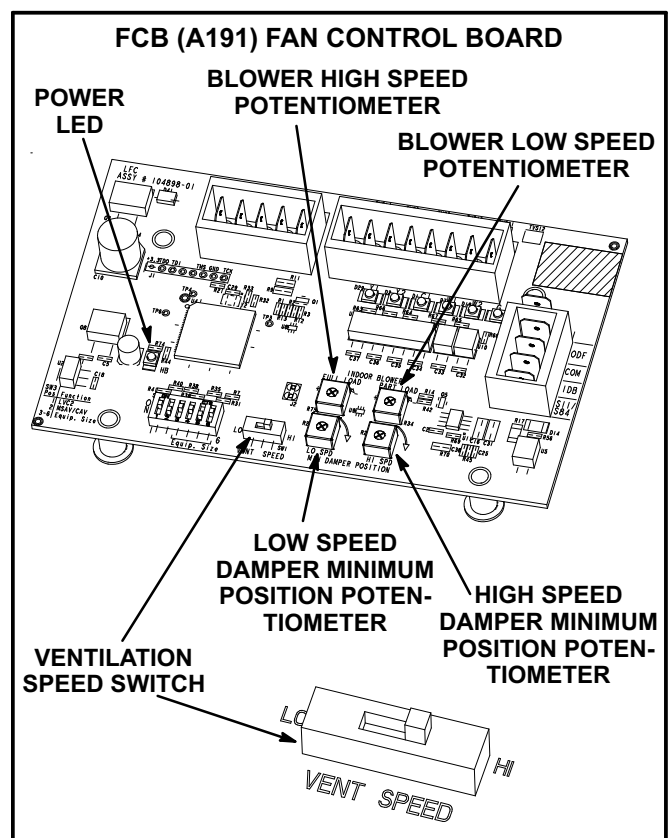

FIGURE 23
- 5- Check the power LED on the board. See figure 23.
See figure 23.
To save energy during ventilation, the blower speed can be set to low. This is accomplished by changing the ventilation speed switch on the FCB control board to "LO". See figure 23.